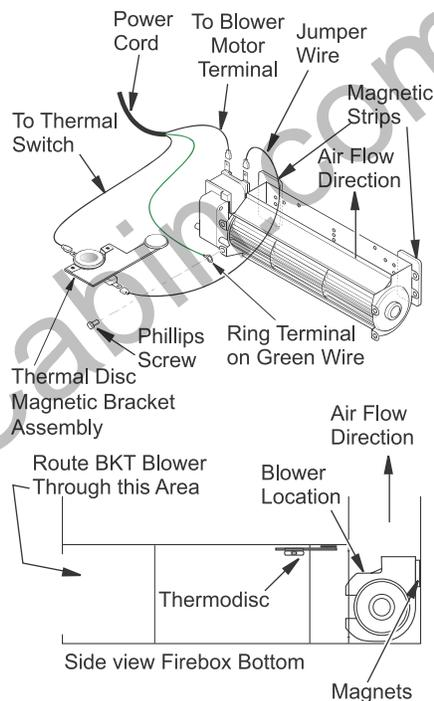

Figure 40 - Blower Model BKT
1. Attach green ground wire from power cord to blower housing using screw provided (see Figure 40) Tighten screws securely with a Phillips screwdriver.
3. Place the blower against the lower rear wall of the firebox outer wrapper with the exhaust port directed upward. Attach Thermal disc magnetic bracket to the bottom of the firebox sub-floor. The thermodisc must be oriented near the fireplace bottom as shown in Figure 40, in order to sense temperature and properly operate. The blower will be held in position against the back wall by the magnets incorporated onto the blower housing (see Figure 40).